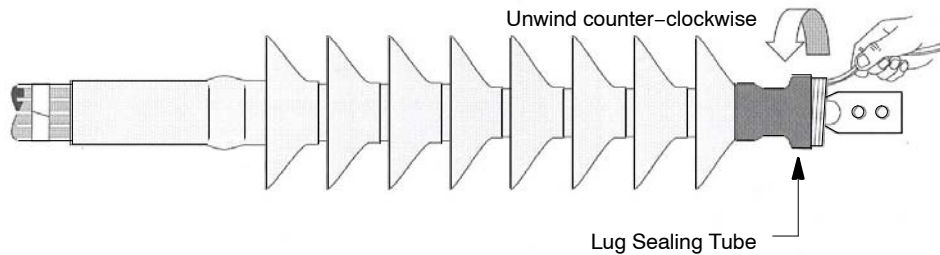

Figure 13
16. Slide the lug sealing tube onto the lug/termination, as shown. Start to shrink the tube near the top of the last skirt and onto the lug barrel. If the tube overlaps the lug pad or is not tight to the lug barrel, carefully trim the tube just past (1/4") the Scotch Rubber Mastic Tape 2228 sealing tape. A roll of Scotch Self-fusing Silicone Rubber Tape 70 is provided to cover the edge of the trimmed tube, apply with moderate tension, stretching only enough to conform to the lug barrel and tube. (Figure 13)